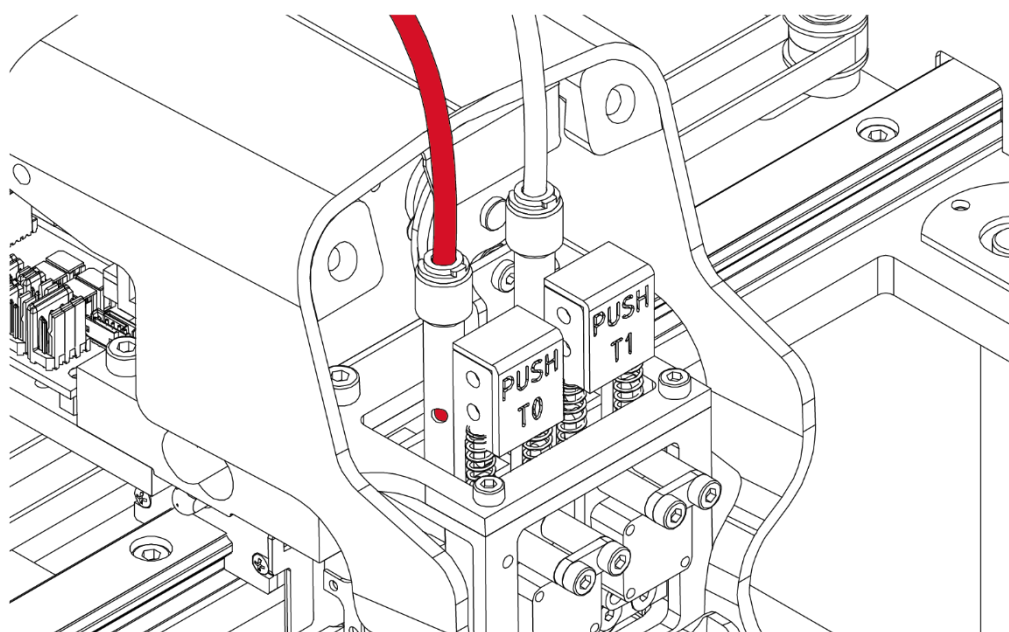

Fig. 40 Properly installation of the short bowden tube
6. Mount the short bowden tube material. Remember to insert it as far as possible (about 2 cm) and put a C-shaped block. Properly installed short bowden tube will be visible in the hole in the hotend guiding sleeve (fig. 40).